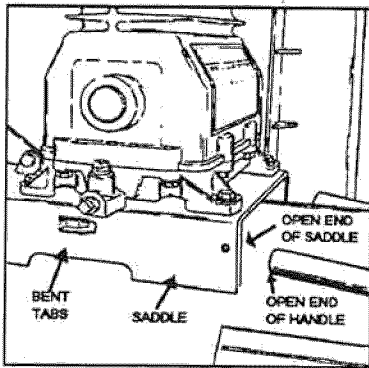
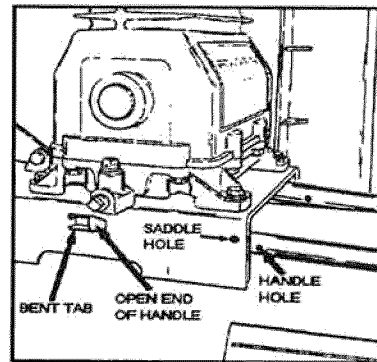

FIG. 1
FIG. 2
1. Insert the open end of the handle under the saddle (Fig. 1). Before attaching handle, you may have to pull the open ends of the handle apart so they fit tightly against the side of the saddle. Looking in from the open end of the saddle, position the handle toward the two bent tabs, on the inside walls of the saddle. *Slowly* push the open ends of the handle onto both tabs at the same time (Fig. 2). Continue pushing the handle into the saddle until the holes on the side of the saddle and handle are in line.